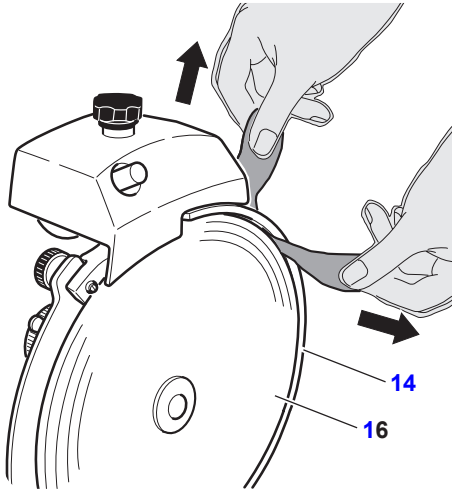

Figure 15-1
7. Carefully insert the cloth between the knife (16) and knife ring guard (14). While holding the cloth between knife (16) and knife ring guard (14), work it along the inside surface of ring guard (14). Repeat this procedure as necessary (Figure 15-1).